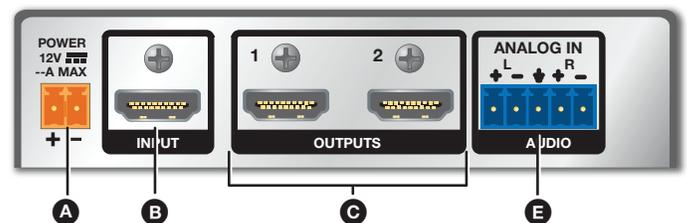

Figure 1. DA2 HD 8K AE and DA2 HD 8K AI Rear Panels
2. Connect an HDMI cable from the source to the DA2 Input (see figure 1, B on page 1).
3. Connect an HDMI cable from the DA2 Output (see figure 1, C) to the display or distribution system.